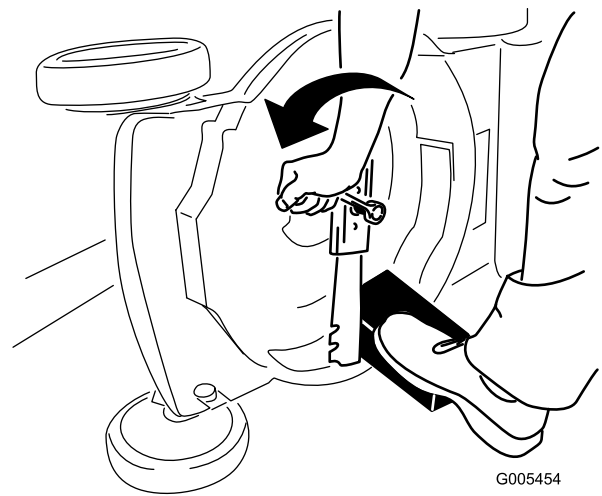

Figure 25
3. Use a block of wood to hold the blade steady (Figure 25).
4. Remove the blade, saving all mounting hardware (Figure 25).